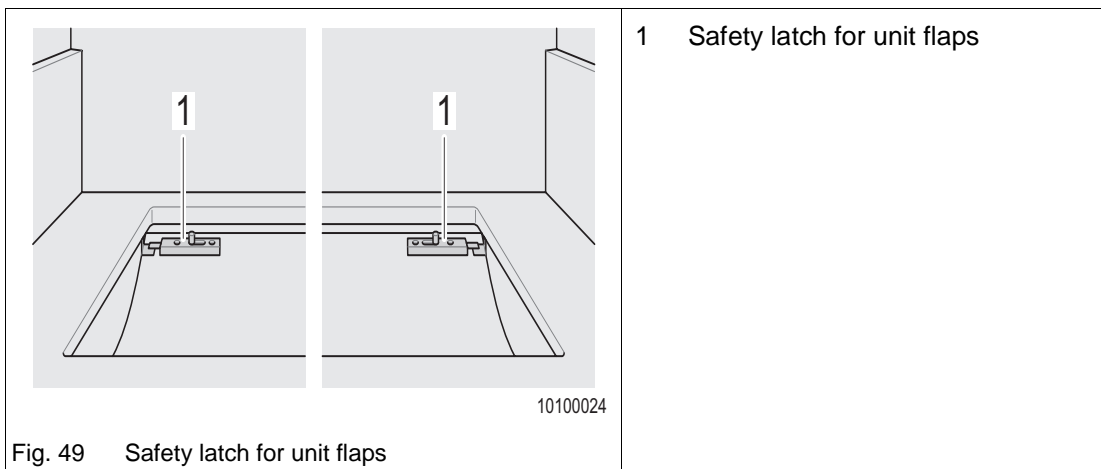

Fig. 49 Safety latch for unit flaps
- ➔ Secure the right and left unit flaps against unintentional opening with the safety latches (Fig. 49/1).